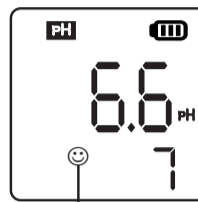

Figure 1
5. Dip the probe in pH 7.00 buffer solution, stir gently, and allow it to stand still in the buffer solution until a stable reading is reached. When measurement stability icon (☺) appears and remains on the screen (see Fig 1); then short press CAL/ key to complete the one-point calibration. The tester returns to measurement mode and indication icon "M" will appear at the bottom left of the screen, indicating the middle point of calibration has been completed.